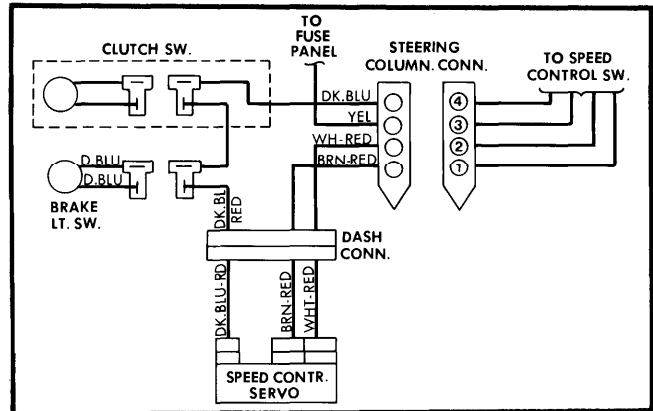

Fig. 2 Wiring Diagram of Chrysler Corp. Speed Control System
1) Disconnect 4-wire connector at steering column. Connect a 12 volt positive source to terminal 3 in connector going to speed control switch. With switch in "ON" position, connect a test lamp between connector terminal 1 and ground. Lamp should light and then go out when speed set button is depressed. See Fig. 2.